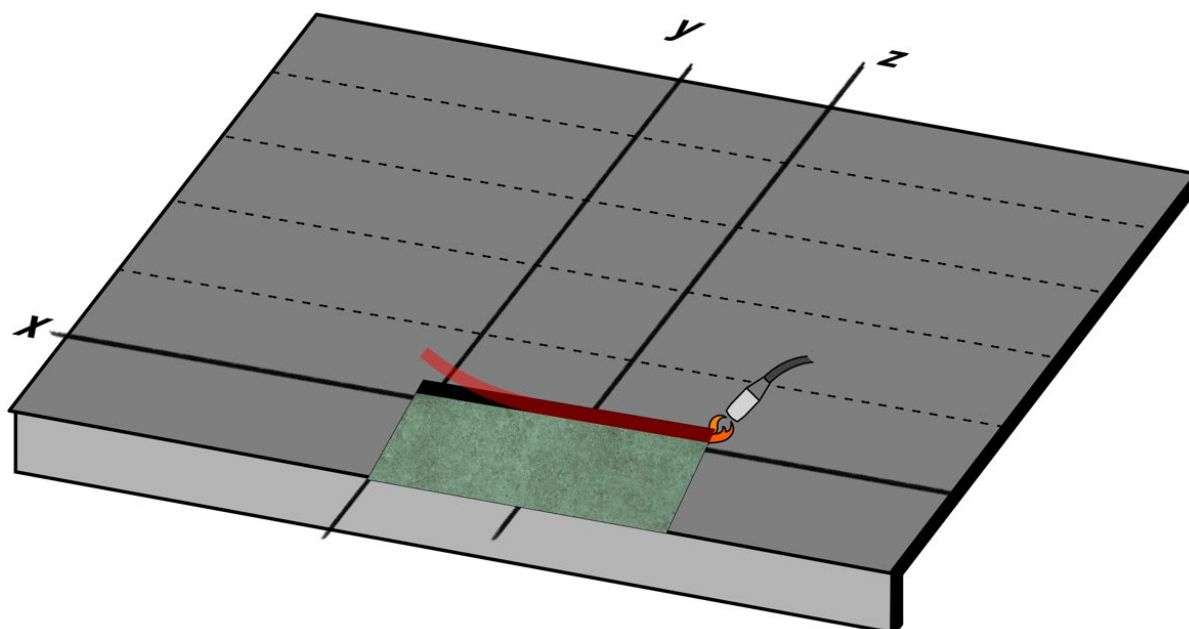

Fig. 18 - Starting row shingles installation by torch
- Proceed with the installation of the first row of shingles, placing them on the bituminous membrane already installed: align the lateral edge of the first shingle with the vertical axis **y** and the upper edge with the horizontal axis **x**. Fasten the shingle to the membrane using the torch, while lifting the upper part of the shingle with the appropriate tool. Direct the flame towards the membrane to melt only the membrane itself. The underside of the shingle will only be heated – see Fig. 18. Then, lower the shingle and press it down (for example, by applying pressure with a foot) to assist the bonding of the bitumen from both elements: the shingle and the membrane.